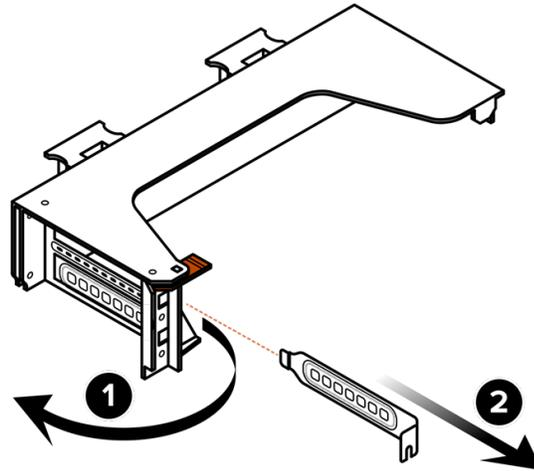
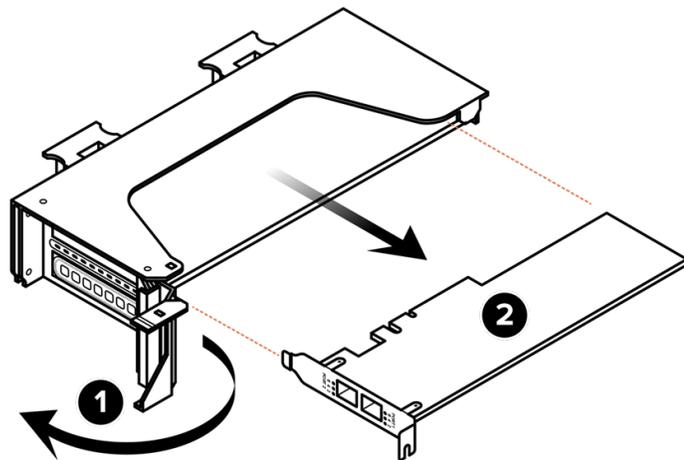

Figure 14-8. Removing Riser 1 Blank
Figure 14-9. Removing Riser 1 Card
2. Remove the blank (Figure 14-8) or PCIe card (Figure 14-9) in PCIe slot 2.